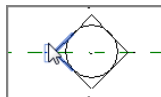

FIGURE 3.86: The revised, less-obtrusive elevation markers
6. Zoom back in on the elevation markers. They should look like Figure 3.86.